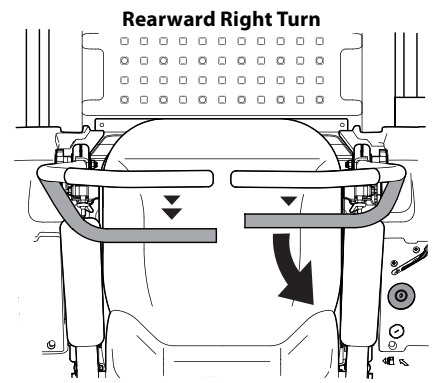

Figure 3-8
2. To turn to the right while traveling in reverse, move the right drive control lever forward of the left lever. See Figure 3-8.